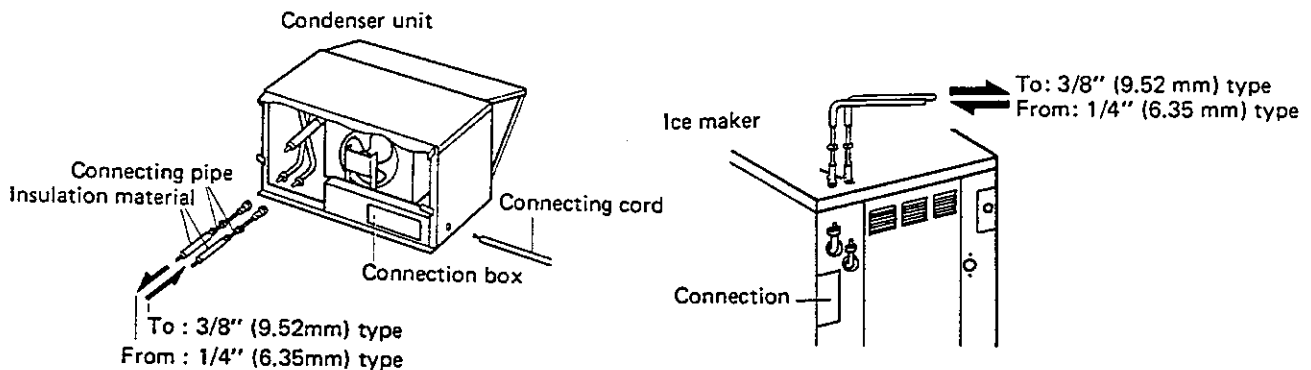

Fig. 21 Connecting the condenser unit and the ice maker
9. Remove the coupling caps (plastic resin) of the connecting pipes and connect up the 3/8" (9.52 mm) type from the ice maker to the condenser unit and the 1/4" (6.35 mm) type on coming back, *being careful* not to mix up the IN and OUT ports. (see Fig. 21)
13. Connect up the lead wire from the fan motor in the connection box to the ice maker fan motor connecting wire. (see Fig. 21)